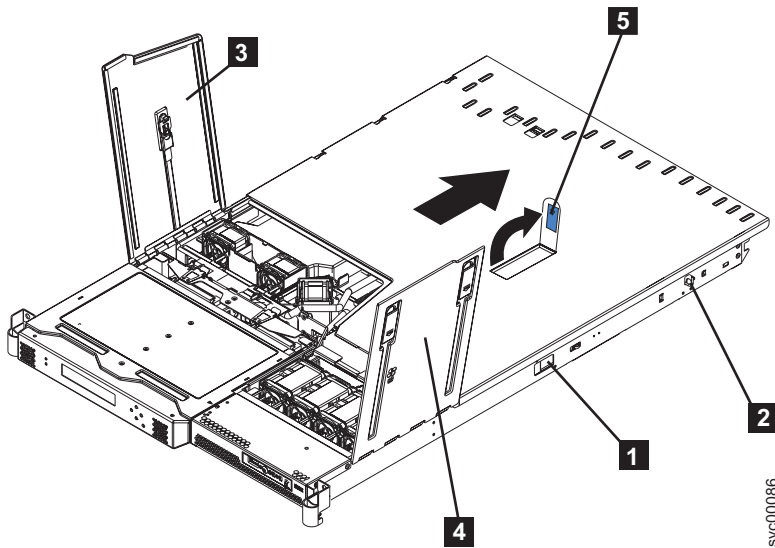

Figure 71. SAN Volume Controller 2145-8F2 or SAN Volume Controller 2145-8F4 with fan doors open
- b. Slide both side release latches (left and right) toward the front of the node. Make sure that both rail-lock pins (**2** in Figure 71 on page 72) are in a vertical position, pull the node out, and remove it from the rack.